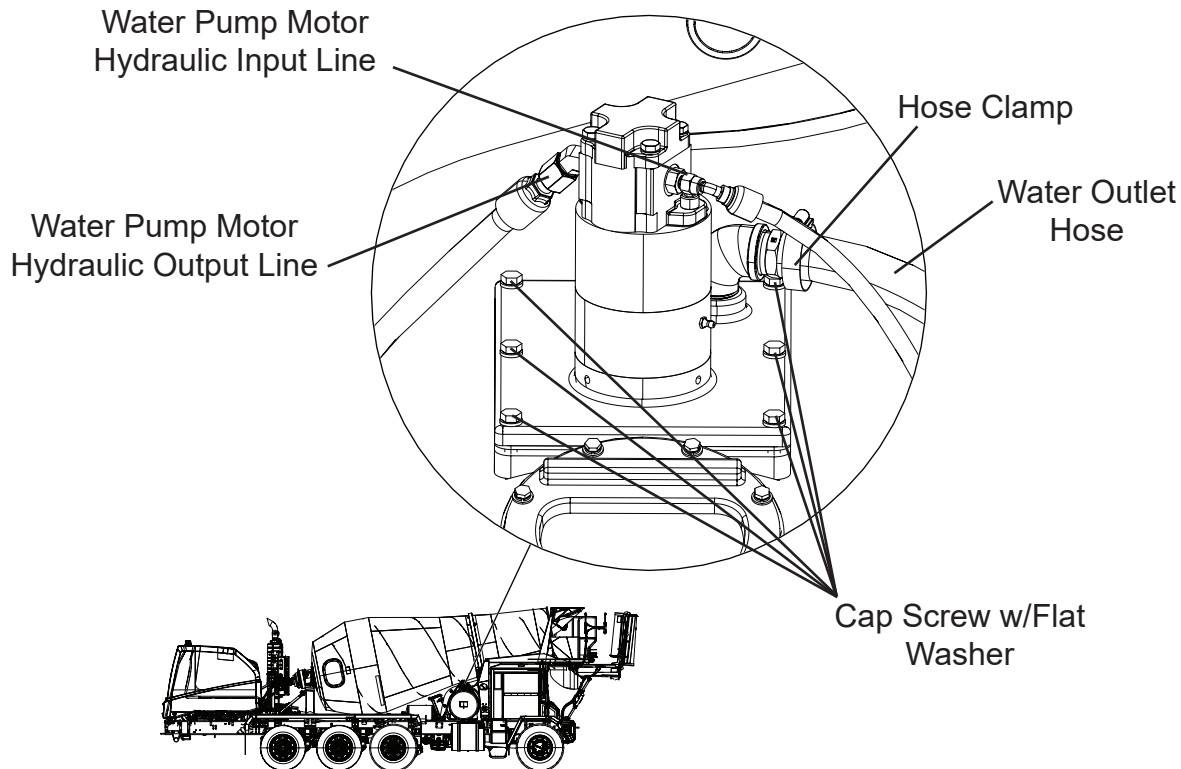

Figure 19
32. Reinstall water pump assembly in water tank, see Figure 19.
34. Install the six 0.38-16 x 1.25" cap screws with flat washers to secure water pump assembly mounting plate to water tank, see Figure 19. Final tighten cap screws to 17 ft. lbs.
35. Reconnect water outlet hose. Tighten hose clamp to secure outlet hose to pump outlet fitting, see Figure 19.
36. Reconnect water pump motor hydraulic input line, see Figure 19. Final tighten line to 12 ft. lbs.
37. Reconnect water pump motor hydraulic output line, see Figure 19. Final tighten line to 45 ft. lbs.